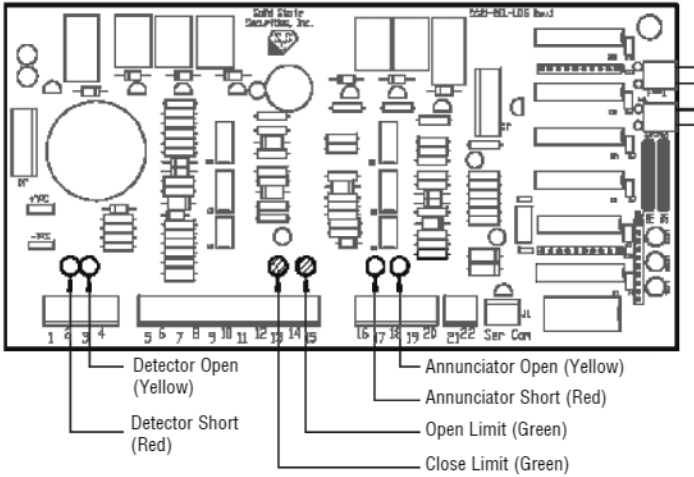

FIGURE 11 - LOGIC BOARD LED DESCRIPTIONS
3. Green Close Limit LED will be lit on Logic Board (Figure 11).
5. Green Open Limit LED will be lit on Logic Board (Figure 11).